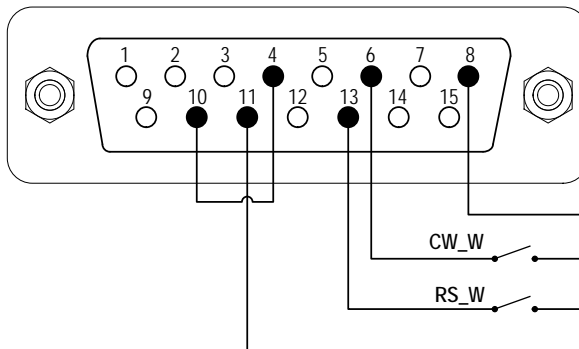

Figure 17. Logic Level 2 Control with the Internal 12V Power Source
- 1) Turn off the power. Wire the DB15 connector as shown in Figure 17 or Figure 18, and connect it to the DB15 port on the rear of the pump.